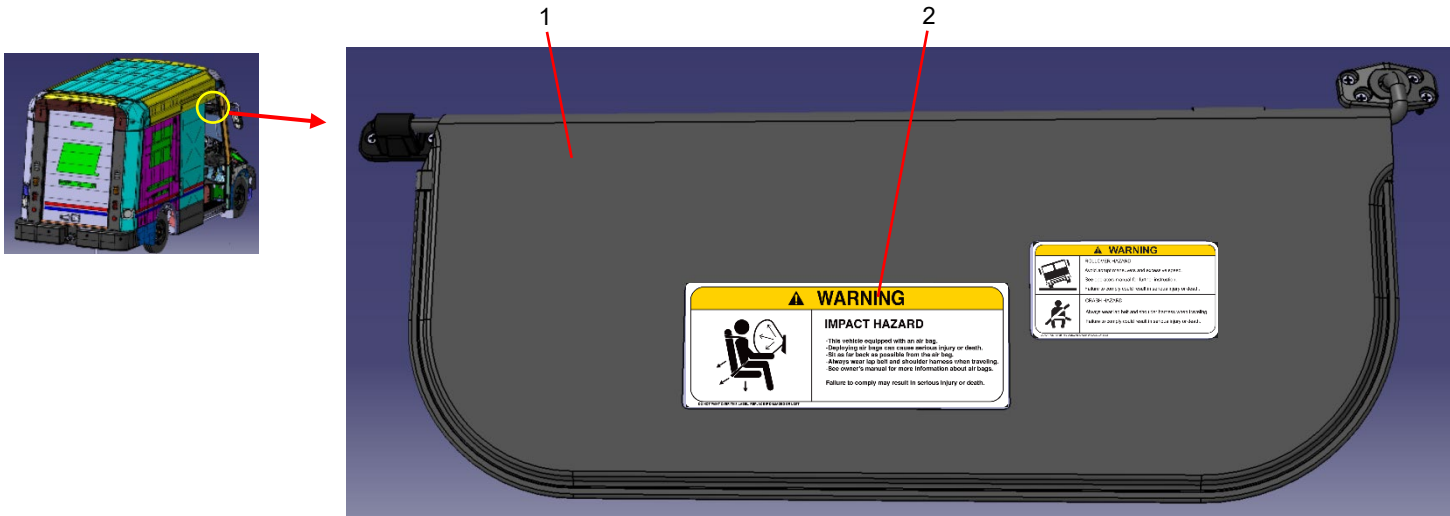

Figure 2. Impact Warning Label Removal.
- 4) Locate the “Impact” warning label (Figure 2, Item 2) on the driver side sun visor (Figure 2, Item 1) and remove it.
- 5) Once “Impact” warning label (Figure 2, Item 2) is removed, clean the area with isopropyl alcohol to remove any existing adhesive from the driver side sun visor (Figure 2, Item 1).